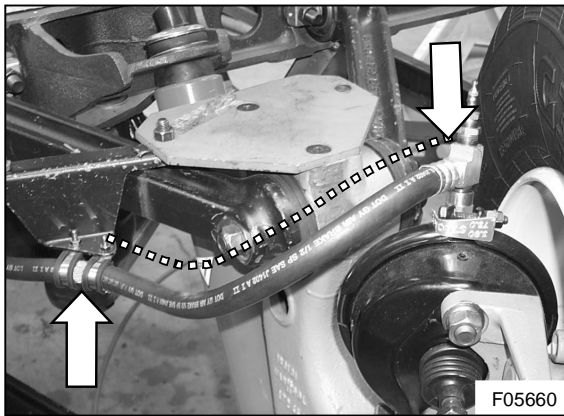

Figure 13: Critical hose length between tee connector on brake chamber and section between hose clamps (left hand shown).
The hose length measured between the tee connector on the brake chamber and the section between the two steering knuckle hose clamps (see Figure 13) should be: 18 7/64 inch (460 mm).
- 8) Attach the hose to the steering knuckle bracket using two new clamps VH 637100140 and the recovered M6 bolts and nuts. Make sure the red mark has been positioned between the two clamps (see Figure 13). Tighten to a torque of 7 ft.lbf (10 Nm).